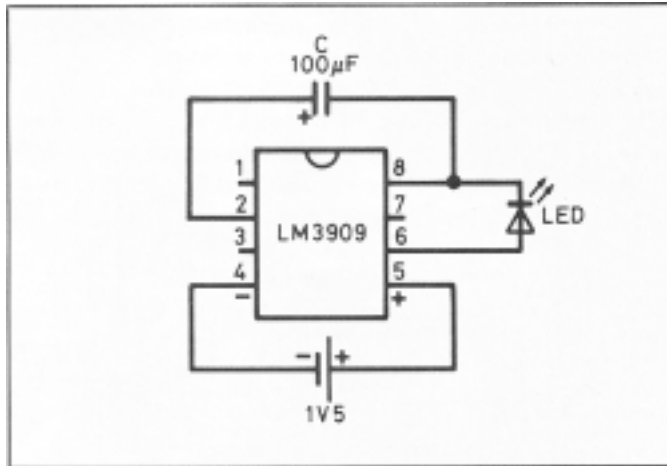

Figure 1 Circuit diagram of the LED Flasher. Pins 1, 3 and 7 of the IC are not used
The LM3909 is an integrated circuit (IC) which will flash a light-emitting diode (LED). Using only two extra components and a battery, the circuit is cheap and has a very low current drain from a 1.5V cell. The circuit can be used as a novelty flasher, an indicator for a dummy alarm bell box, or it could be attached to a torch so that it could be found easily in the dark! The simple circuit is shown in **Figure 1**.